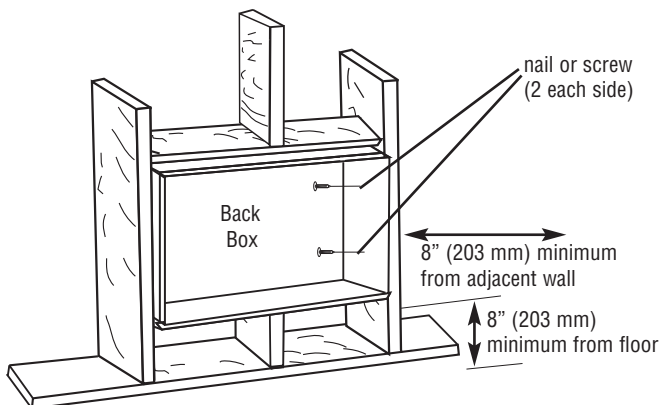

Fig. 1: Locating Recessed Back Box in New Construction
Installation of Recessed Back Box in New Construction (See Figure 1)
3. Secure the back box in position with wood screws or nails as shown in Figure 1.